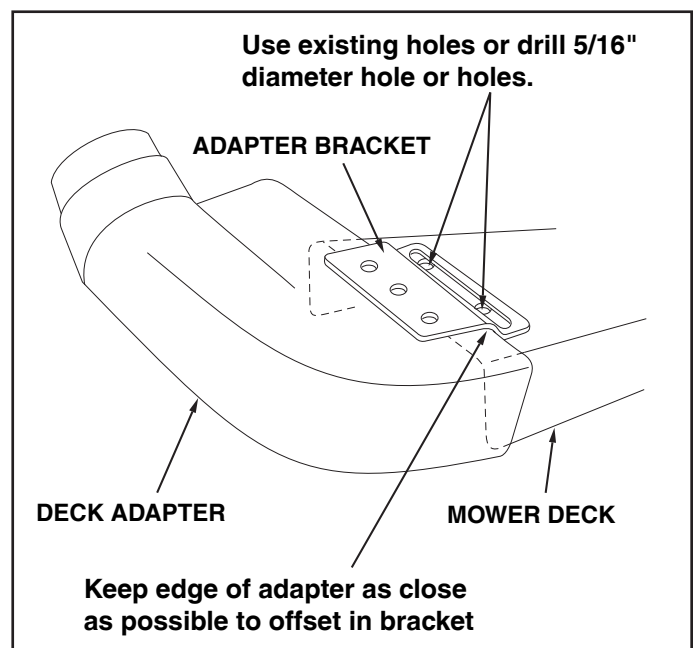

FIGURE 31
6. Holding the adapter bracket and the deck adapter together, position the deck adapter on the mower deck. Keeping the edge of deck adapter as close as possible to the offset in the adapter bracket, see if the slot in the adapter bracket can be aligned with one or two of the deflector holes in your mower deck's discharge opening. If the bracket can not be located correctly using existing holes, it will be necessary to drill one or two 5/16" diameter holes in the deck. See figure 31.